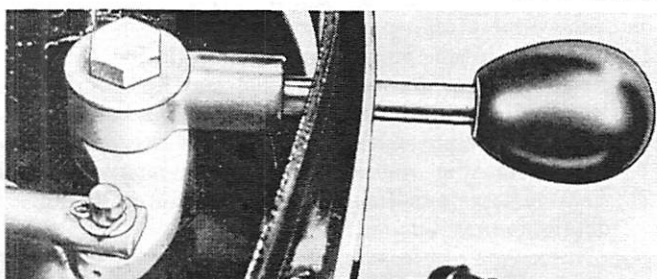

Figure 2. Manual Shift Lever Position
5. Unscrew knob from manual shift lever and place lever in position in cowl. Place link rod on shift lever. (Figure 2)
7. Place pivot screw, which was removed previously, thru washers and bushing and thread screw into bottom cowl. Tighten screw securely. (Figure 2)
8. Fasten link rod to shift lever with washer and cotter pin. (Figure 2)
9. Thread knob on lever and tighten securely. (Figure 2)